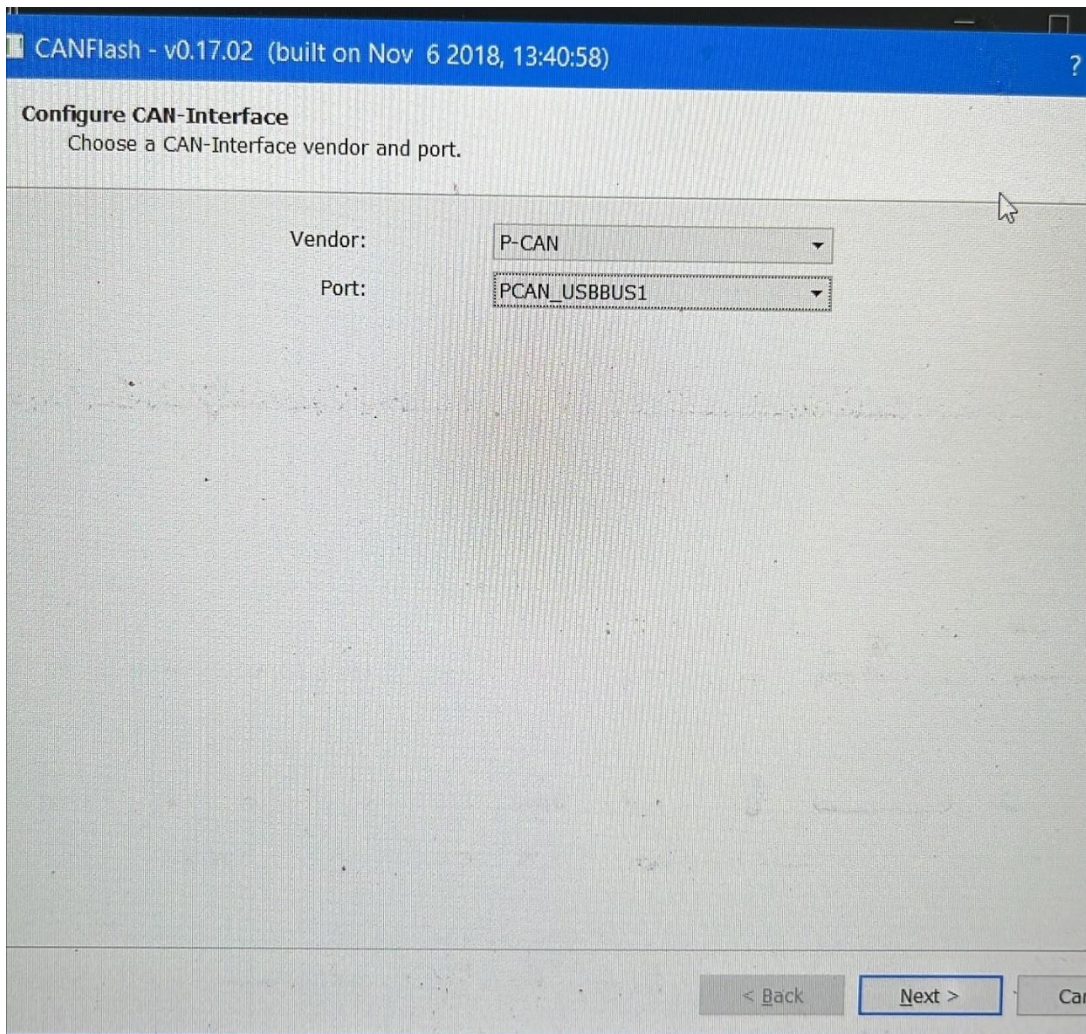

Figure 2: CANFlash PCAN settings
12. Once CANFlash is open select **P-CAN** under the Vendor drop-down menu. Select **PCAN_USBBUS1** under the Port drop-down menu (see figure 2). It's important to ensure the physical connection to the laptop matches the same port as dictated by the CANFlash setup. Click **Next** when complete.